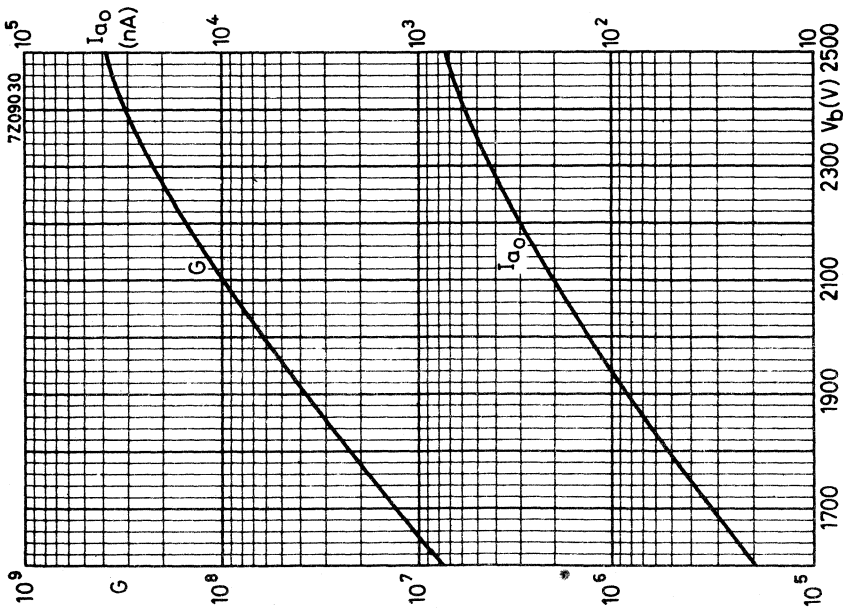

Fig. 4
B. The multiplier system consists of 14 stages, providing a total current amplification of 10^8 at about 2100 V (see fig.4).